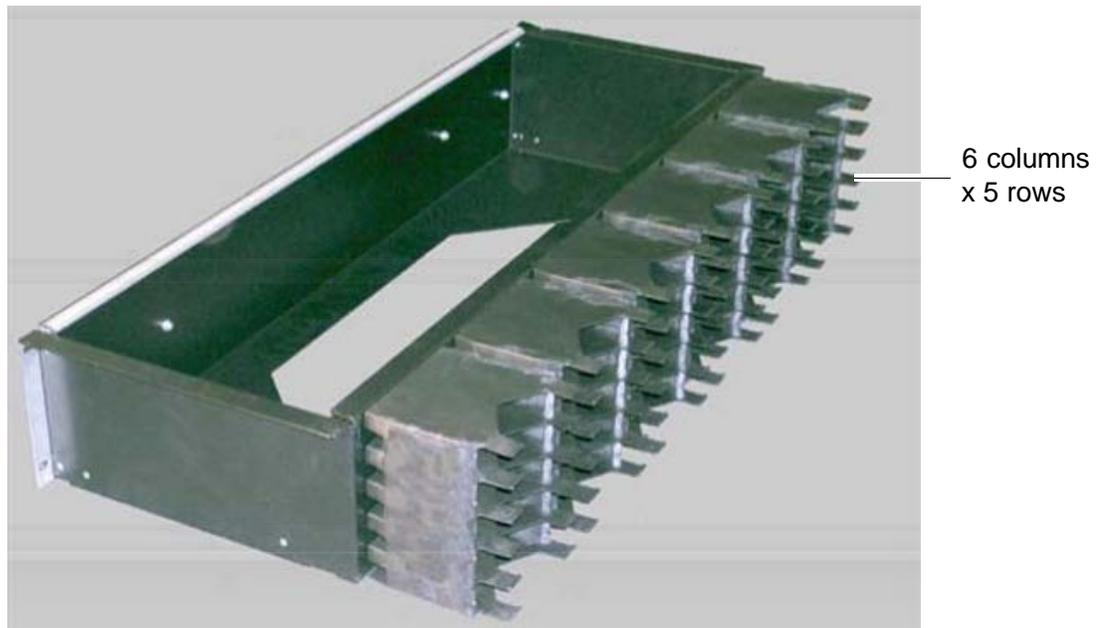

Figure 2-13 Cartridge bay
- **Cartridge bays.** The library accommodates up to seven cartridge bays (see Figure 2-13). Each cartridge bay provides storage slots for 30 cartridges. Cartridge bays can be installed at the factory or exchanged with drive bays in the field, allowing for customized capacity and performance.